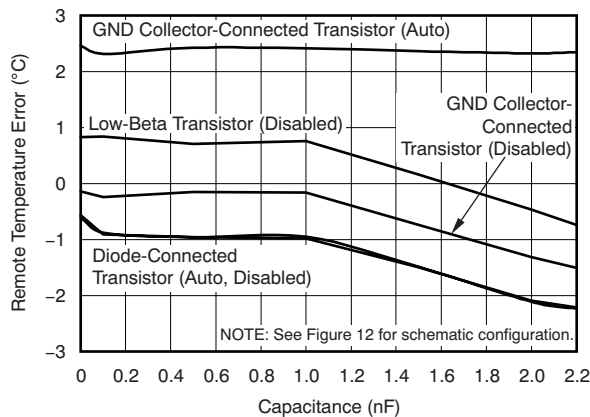

Figure 9.
The TMP435 can tolerate differential input capacitance of up to 2200pF with minimal change in temperature error. The effect of capacitance on sensed remote temperature error is illustrated in Figure 9 and Figure 10, *Remote Temperature Error vs Differential Capacitance*. See the Filtering section for suggested component values where filtering unwanted coupled signals is needed.
- (1) Diode-connected configuration provides better settling time. Transistor-connected configuration provides better series resistance cancellation.
- (2) R_S (optional) should be $< 1\text{k}\Omega$ in most applications. Selection of R_S depends on specific application; see Filtering section.
- (3) C_{DIFF} (optional) should be $< 2200\text{pF}$ in most applications. Selection of C_{DIFF} depends on specific application; see Filtering section and Figure 9, Remote Temperature Error vs Differential Capacitance.